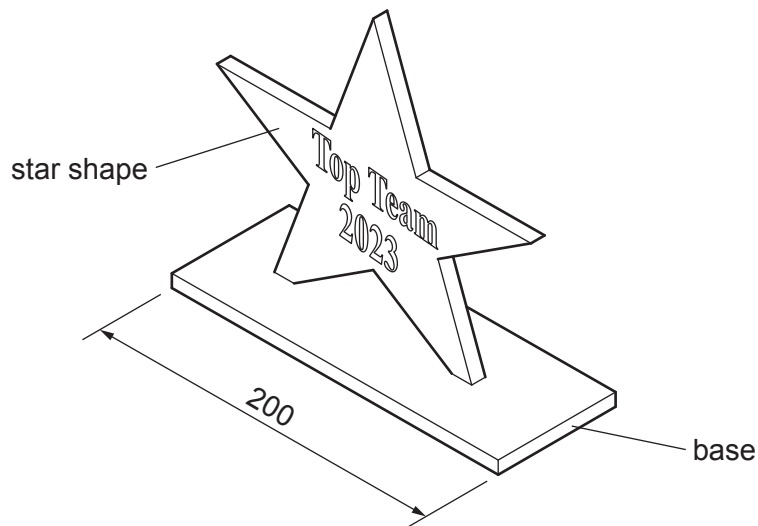

Fig. 10.1
- 10 Fig. 10.1 shows a trophy made of 5 mm thick acrylic. The trophy has been produced using CAD/CAM. The words 'Top Team 2023' have been engraved on the star shape of the trophy.